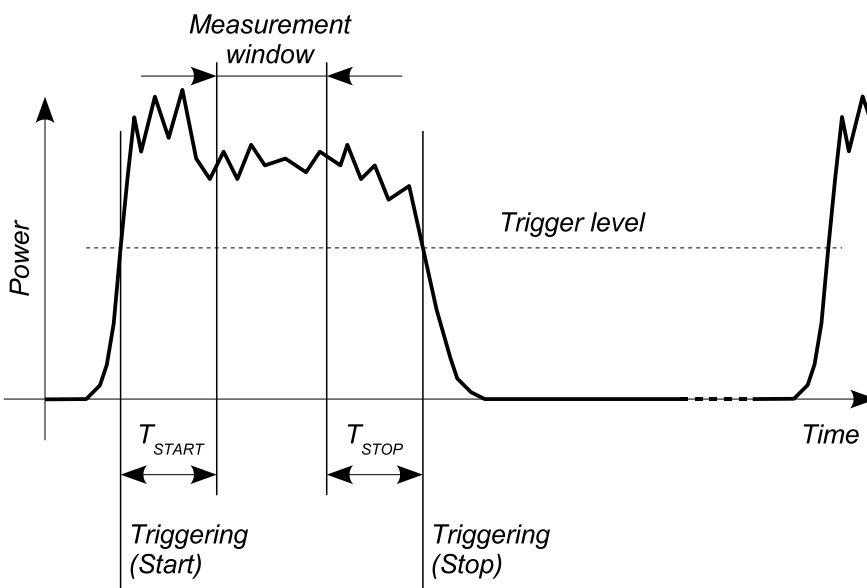
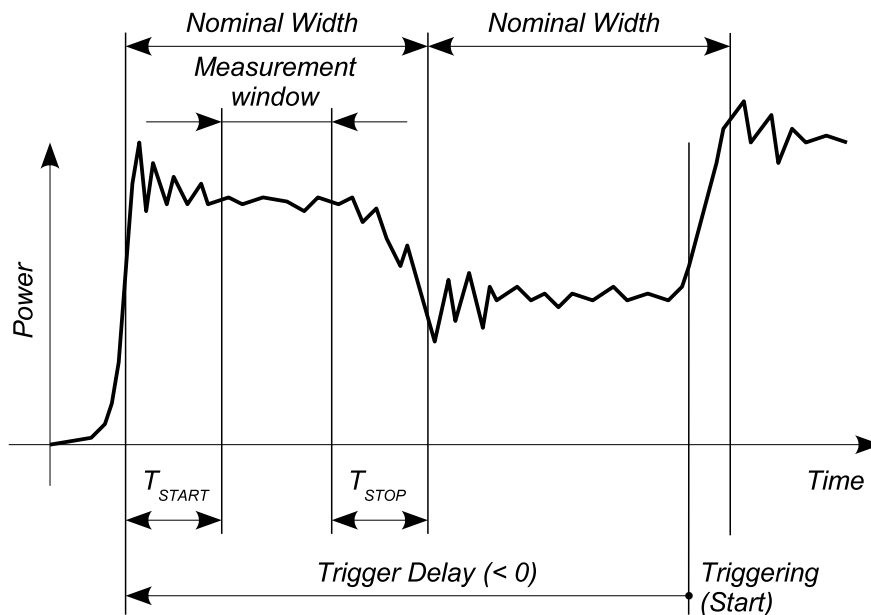

Fig. 6-3 Effect of *SENSe:TIMing:EXCLude:START* and *:STOP* in the *Burst Average* mode
Fig. 6-4 Effect of `SENSe:TIMing:EXCLude:START` and `:STOP` in the *Timeslot* mode
*SENSe:TIMing:EXCLude:START* defines an exclusion time at the beginning of the measurement window in the *Burst Average* and *Timeslot Average* modes. It is referred to as " $T_{START}$ " in Fig. 6-3 and Fig. 6-4.
*SENSe:TIMing:EXCLude:STOP* defines an exclusion time at the end of the measurement window in the *Burst Average* (Fig. 6-3) and *Timeslot Average* (Fig. 6-4) modes. It is referred to as " $T_{STOP}$ " in Fig. 6-3 and Fig. 6-4.